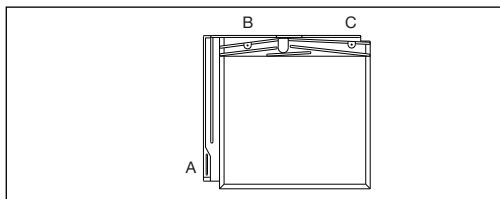

Fig 70 - Single slate
- 1 Each slate is generally nailed once at position A (See Fig.70), but additional nail fixings are required around perimeter of roof and at pitches shallower than 25° and greater than 65° .